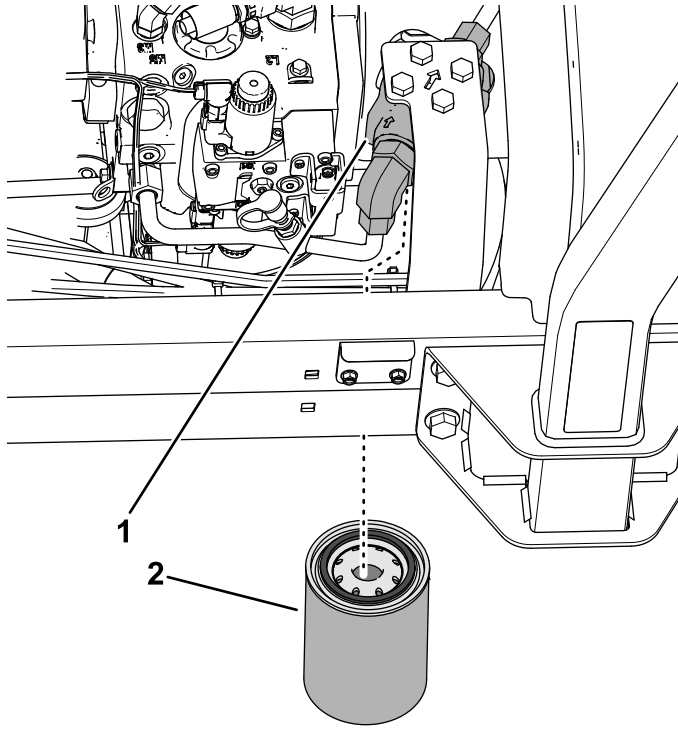

Figure 117
3. At the left side of the machine, align a drain pan under the charge filter (Figure 117).